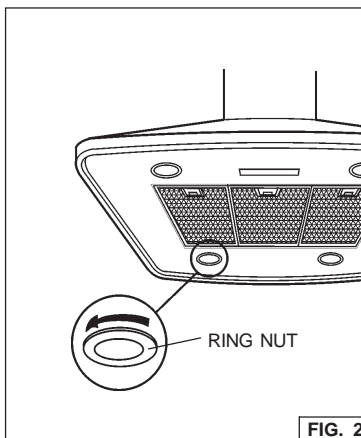

FIG. 2
3. Secure the support frame bracket to joists and cross framing with four lag bolts provided (6x70mm) and four washers (6.4mm). Make sure screws are driven into center of joists and framing for maximum strength. Be careful, because the position of the bracket determines the final position of the hood: the side with the slot B corresponds to the controls side. Fig. 2.